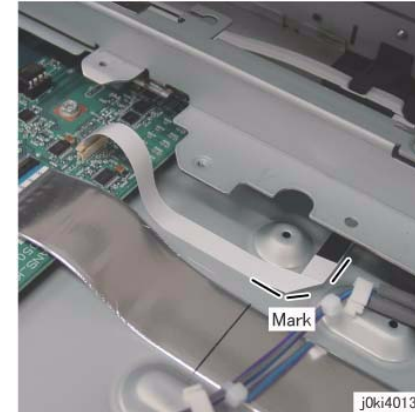

Figure 8 Secure the LED Lamp Wire Harness
3. When securing the LED Lamp Wire Harness to the Base Frame using adhesive tape, align it to the mark as shown in the figure to paste it. (Figure 8)